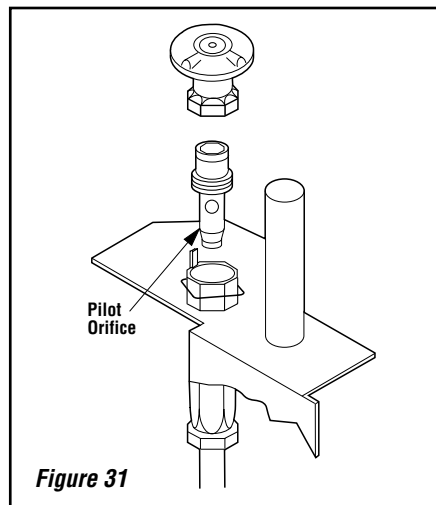

Figure 31
Step 6. See **Figure 31** and remove the pilot hood assembly to access the hexed pilot orifice. Remove and replace the orifice with the one provided with the kit.